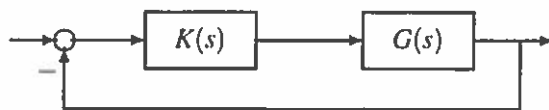

Figure 2.1
2. Consider the feedback control system in Figure 2.1 below.